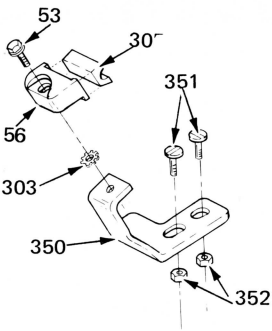

Figure 2A
2. Assemble and install the operational shaft support bracket asm. as shown below (Figures 2A and B).